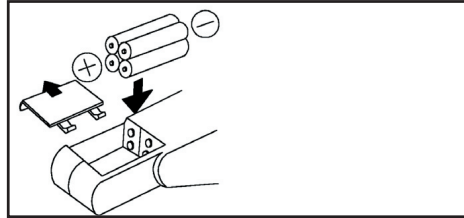

Fig. 1
- Slide the lid of battery compartment in direction shown in Fig. 1.